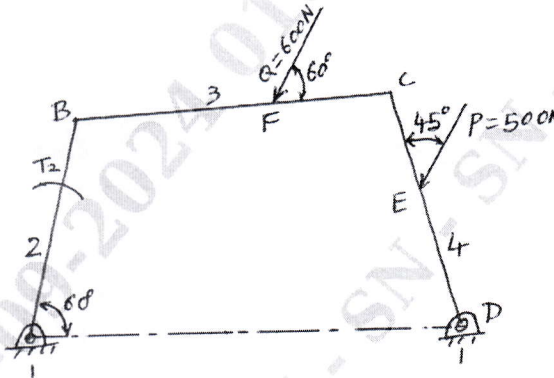

Fig.Q4
- 4 A four bar mechanism under the action of two external forces is shown in Fig.Q4. Determine the torque to be applied on the link AB for static equilibrium. The dimensions of links are $AB = 50 \text{ mm}$, $BC = 66 \text{ mm}$, $CD = 55 \text{ mm}$, $CE = 25 \text{ mm}$, $CF = 30 \text{ mm}$, $BAD = 60^\circ$ and $AD = 100 \text{ mm}$.